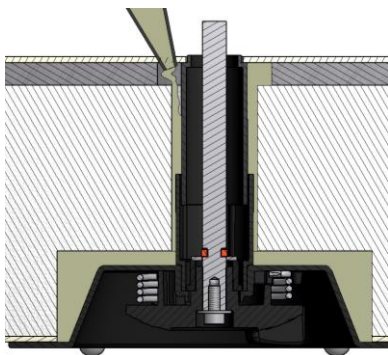

Figure 8: Detail view of insulation injection
*The use of the covers allows for protection of the internal opening mechanism once assembled; it allows the injection of insulation material in the section of panel removed thus reducing the thermal bridge without affecting the mechanism. (The recommended area for application of the insulation material is accessed from behind the tray of the lock (**Figure 8**)).*